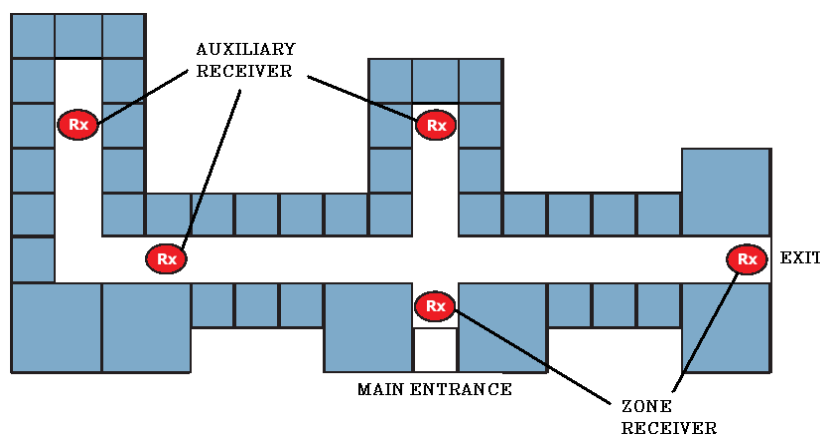

Figure 5.5 Receiver Positioning
- Auxiliary Receivers can be positioned in nurseries, doorways, hallways, or any other area that coverage is desired (see Figure 5.5).